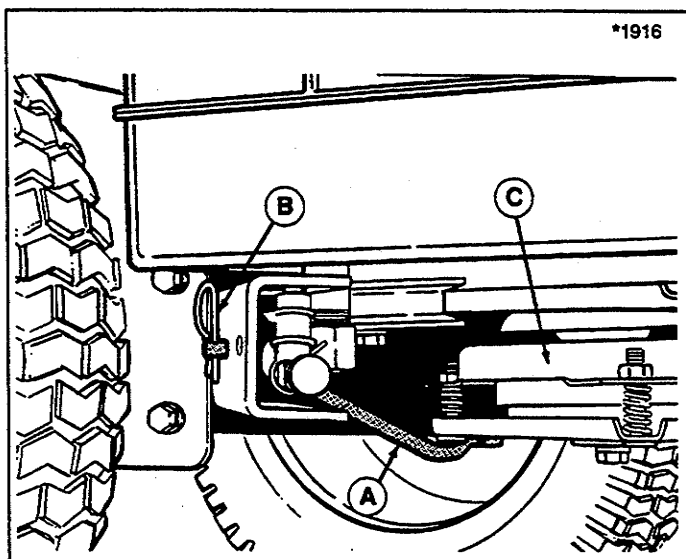

Figure 6. Anti-Spin Rod
4. Install rod to PTO as shown in figure 6. Insert other end through frame and secure with spring clip.
- See figure 6. Remove the spring clip from anti-spin rod outside rider frame. Push rod through frame and disengage other end from PTO.